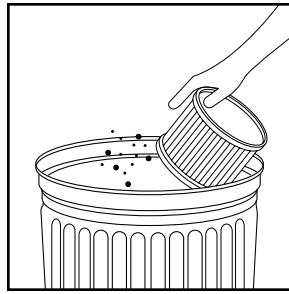

FIGURE 15
20. To clean the cartridge filter shake or brush off excess dirt. **(FIGURE 15)**